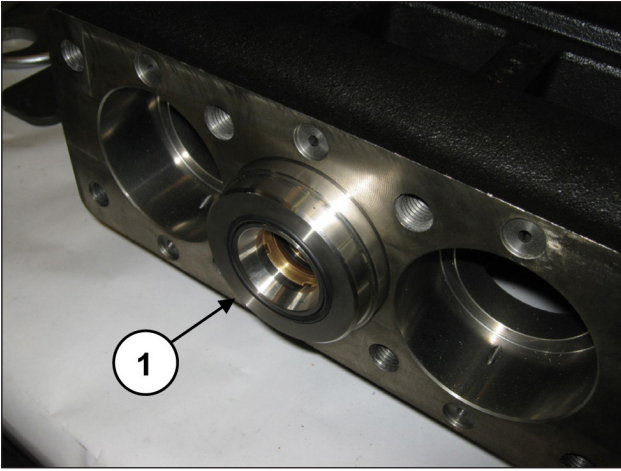

Fig. 175
Turning the shaft, have the piston guide move forward so that the buffer, moving ahead, can expel the seal support and the entire piston unit (pos. ①, Fig. 175).